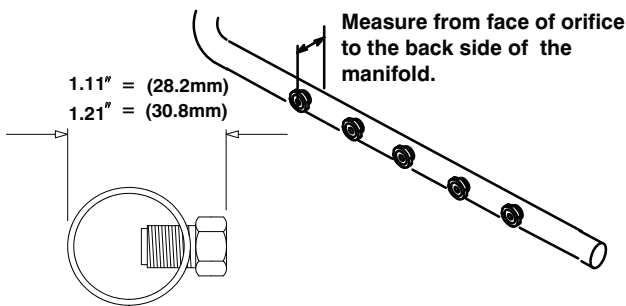

Fig. 3 – Changing Orifices
2. Tighten the orifices so they are seated and gas tight about 1-1/8 in. (29 mm) from the face of the orifice to the back of the manifold pipe (See Fig. 3.) Make sure orifice is installed straight so that it forms a right angle (90°) to the manifold.